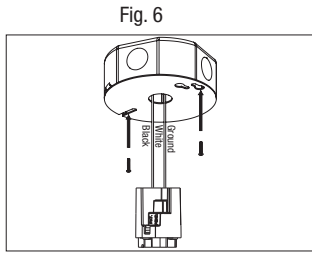

Fig. 6
5. Attach junction box cover plate and pull connector through junction box (Fig. 6). Only necessary when mounting to junction box.